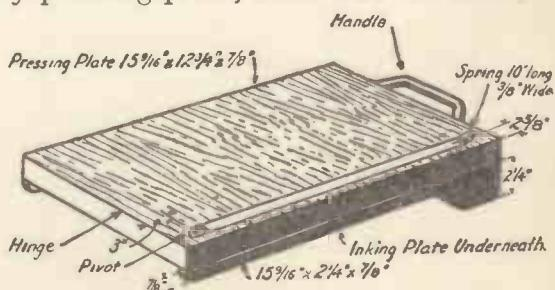

Fig. 2.—The Press Plate.
**The Press-plate.**—The next section of our press is the *Press-plate*. This is hinged to the back edge of the bed and serves also as an inker. The main wood-piece, which is of substantial oak, is cut to size first. The complete details of this section are shown in Fig. 2. The under face, which is to face the bed, must be finished quite smooth and flat, and the grain should be in the same direction as that of the bed as shown. The purpose of this is to balance any very minor inaccuracy. The sides of this piece must also be true and smooth and fit between the guide-pieces of the bed truly. At the front edge of the press-plate is fitted a metal handle which must be strong and firmly secured. Any handle will do for this purpose, and no doubt you will have such an item in the spare box, or it is quite easy to obtain one. At each side of the back of the press-plate are fitted side pieces as indicated, and these serve the combined purposes of maintaining the straightness of the plate, allowing plate to be dropped back level without straining the hinges, and enclosing the inker. The next item required is a strip of springy steel drilled at one end, which is fitted at the right side of the front of the press-plate, and this is to hold in position the paper to be printed with the addition of registering pins. The back of the plate is fitted with a piece of flat tin, or a stout piece of zinc is to be preferred, or, if possible, a steel plate. The press-plate is now hinged to the bed, and this part of the work must be very well